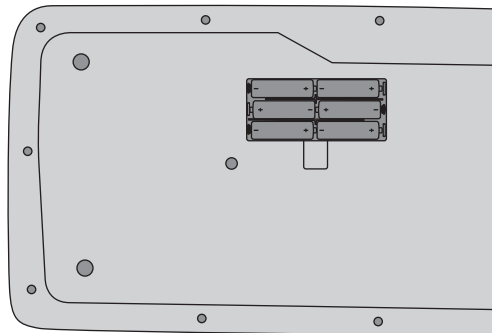

fig. 2
2. Insert six new AA size batteries with the ⊕ and ⊖ marks correctly aligned. See fig. 2